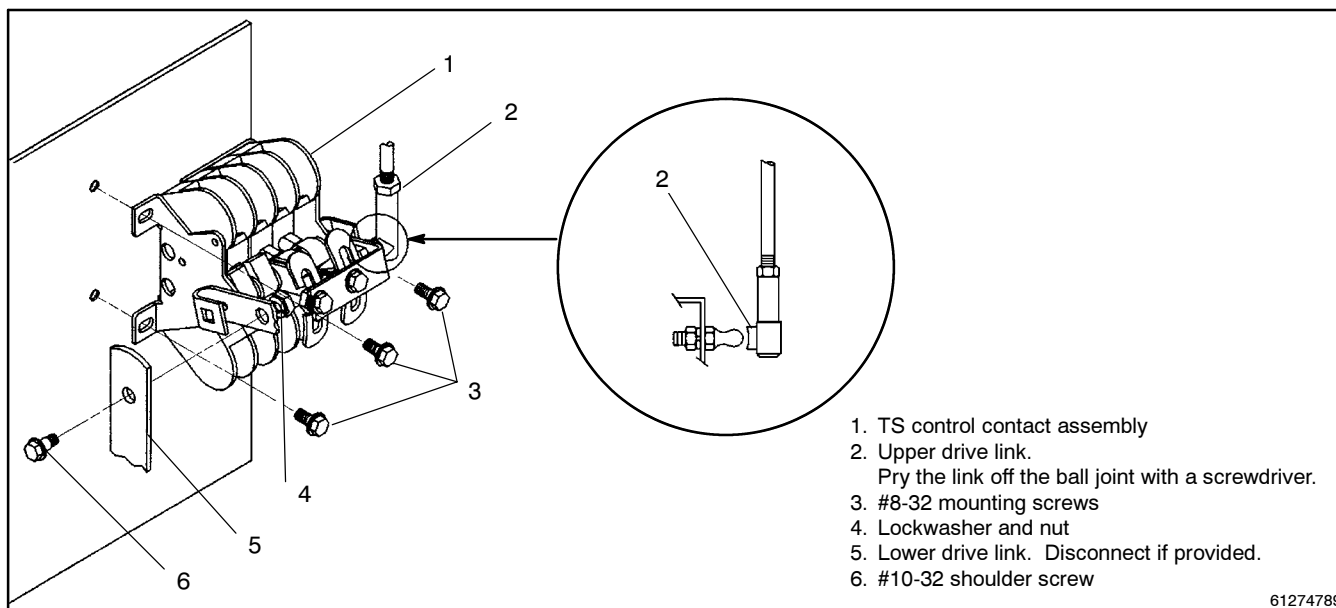

Figure 12-7 Replacing TS Control Contacts
4. Refer to Figure 12-7. Disconnect the upper drive link between the weight and the control contact assembly by prying the link off the ball joint with a screwdriver.